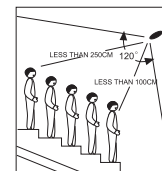

figure 4
3. Select the suitable cable length, then pass the cable through the chip at the plate rim, finally fix the plate on the ceiling or wall by 4 screws. (Figure 4)